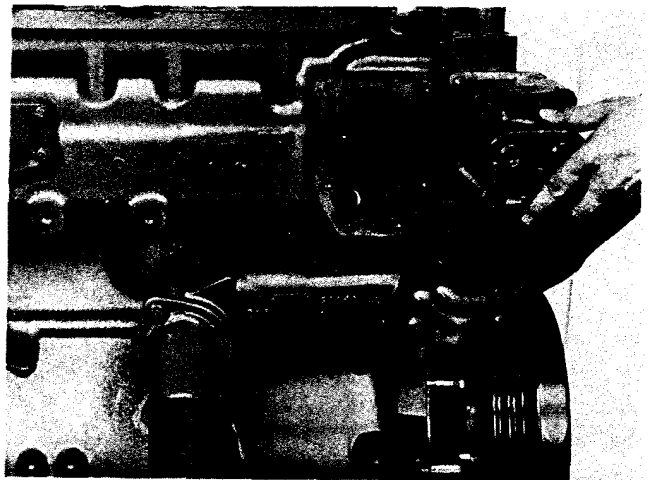

Fig. 0-10, (N100142). Removing water inlet assembly
2. Remove capscrews and lockwashers securing inlet assembly to water pump; discard gasket. Fig. 0-10.